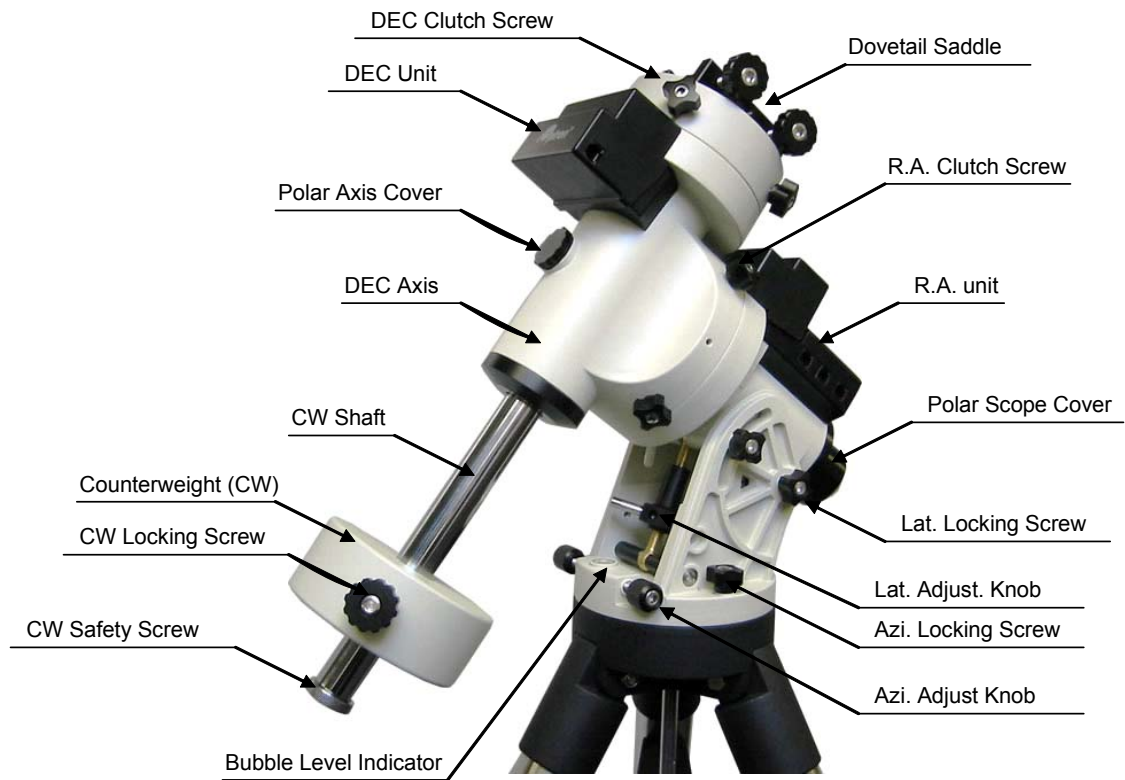
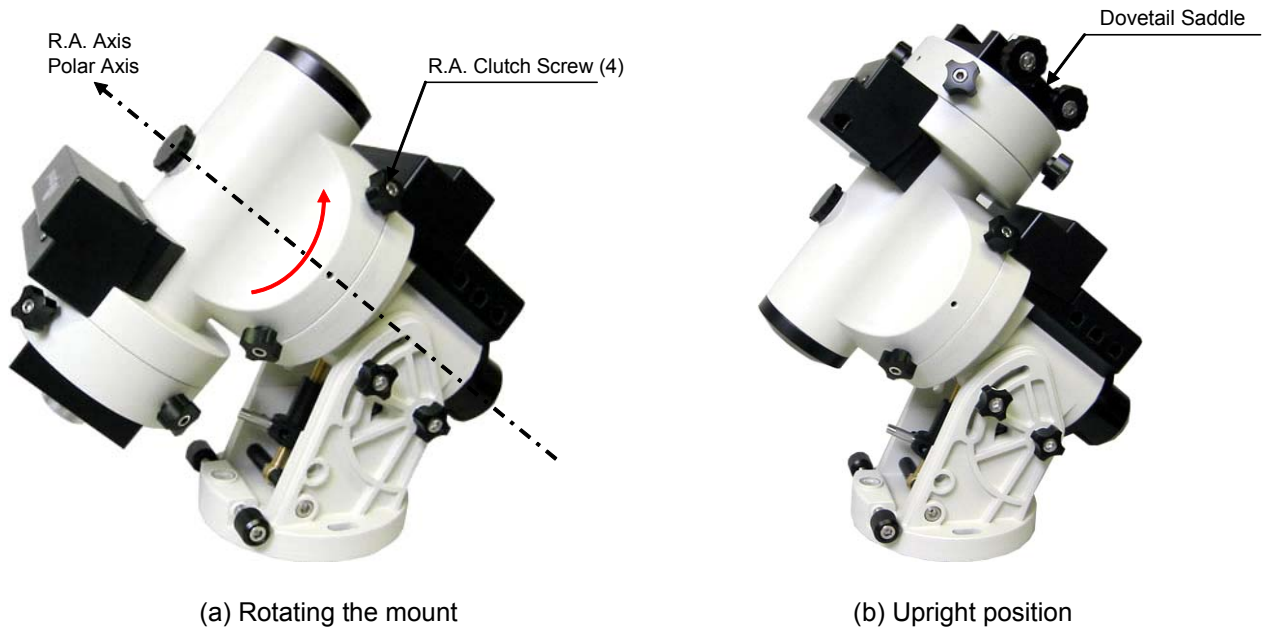

Figure 3. iEQ45 assembly terms (mount and tripod)
Figure 6
Carefully remove the mount from the shipping box and familiarize yourself with the components shown in Figure 3. Unlock the four (4) R.A. Clutch Screws and rotate the mount 180° around the R.A. axis to move the dovetail saddle face topside to the highest vertical position as shown in Figure 6. Tighten the R.A. Clutch Screws.